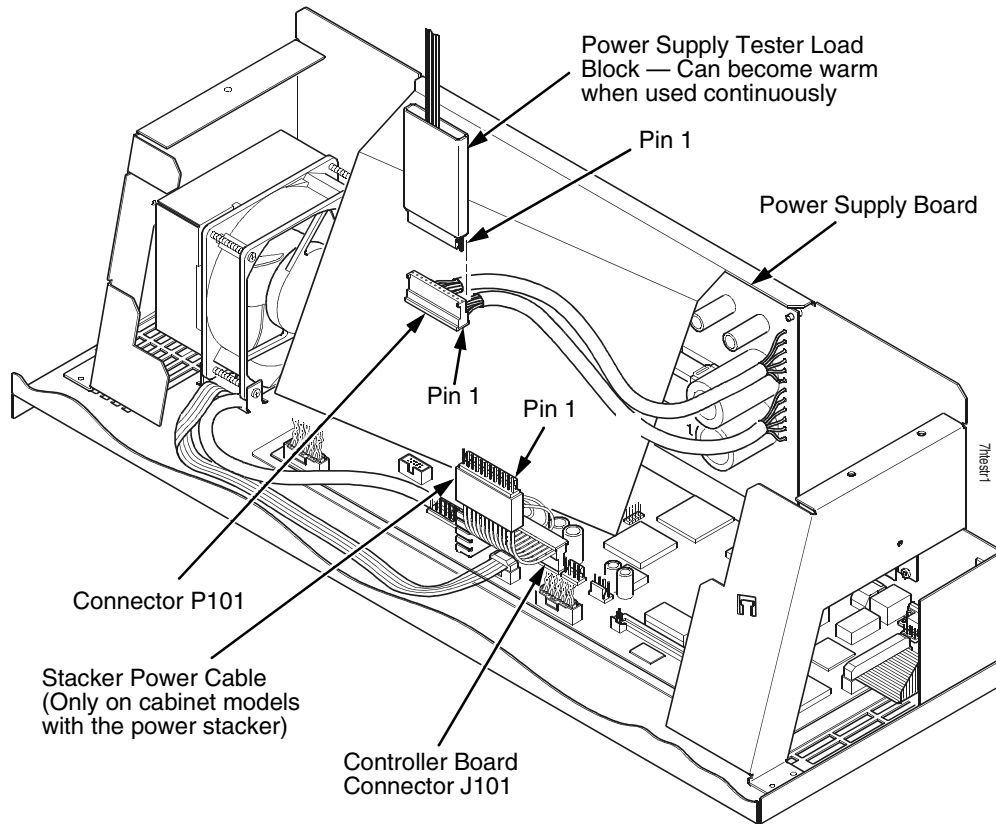

Figure 21. Connecting the Power Supply Tester
4. Disconnect power supply cable connector P101 from either the power stacker power cable or connector J101 on the controller board. (Figure 21.)
5. Plug power supply connector P101 into the 12-pin connector on the power supply tester Load Block, as shown in Figure 21. Note the position of Pin 1 relative to the Load Block.
23. Unplug power supply connector P101 from the 12-pin connector on the power supply tester Load Block. (Figure 21.)
24. Connect power supply cable connector P101 to either the power stacker power cable or connector J101 on the controller board. (Figure 21.)